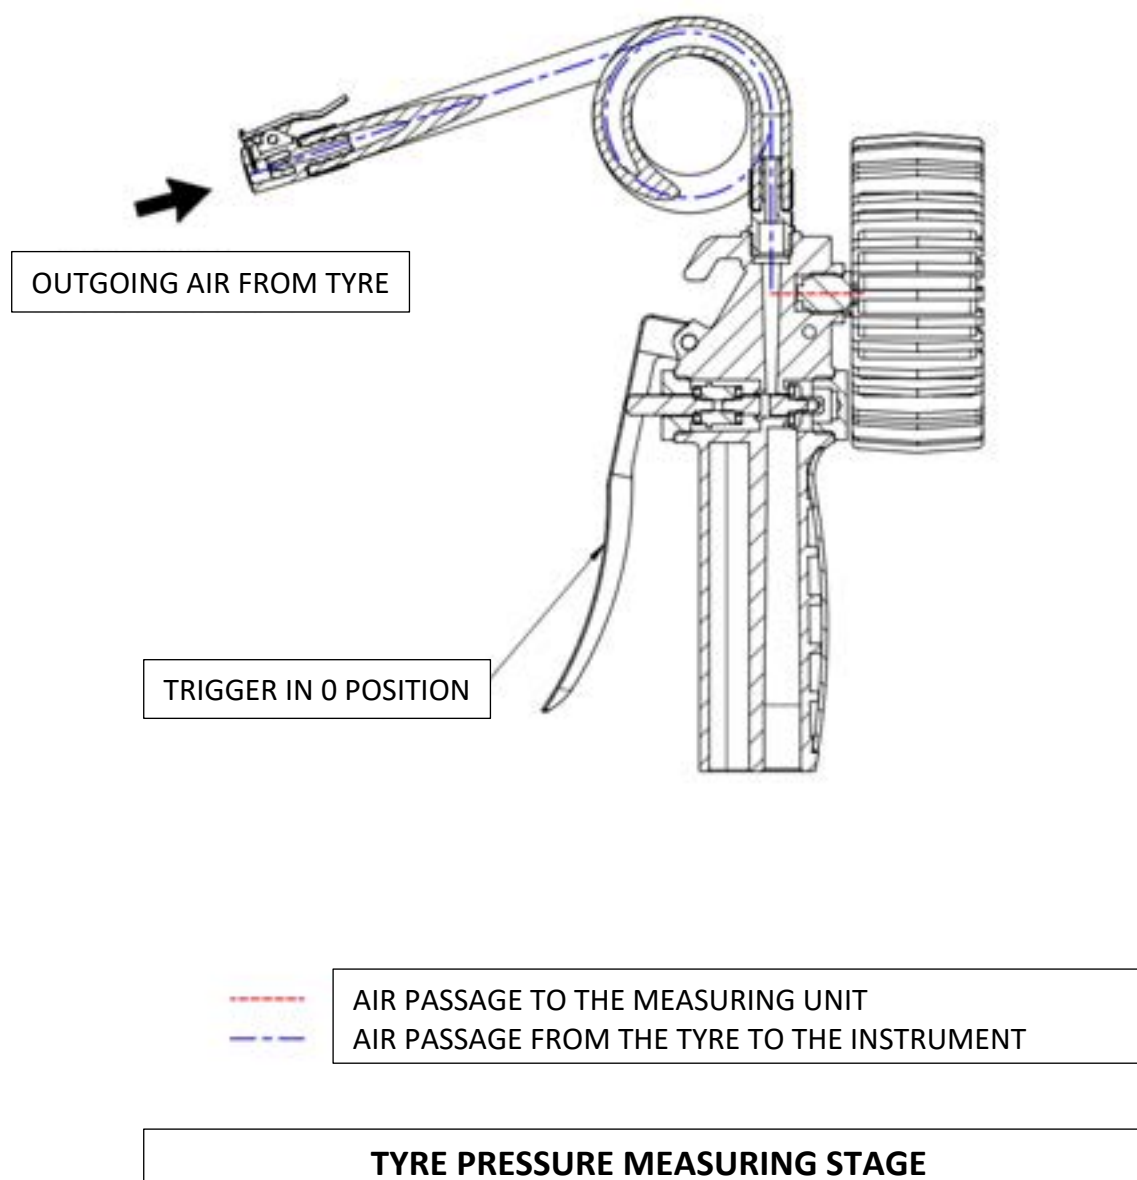

FIG. 12 – TYRE PRESSURE GAUGE “60 G/T” (vers. 80 mm)
- Tyre pressure measuring stage (Fig. 12)